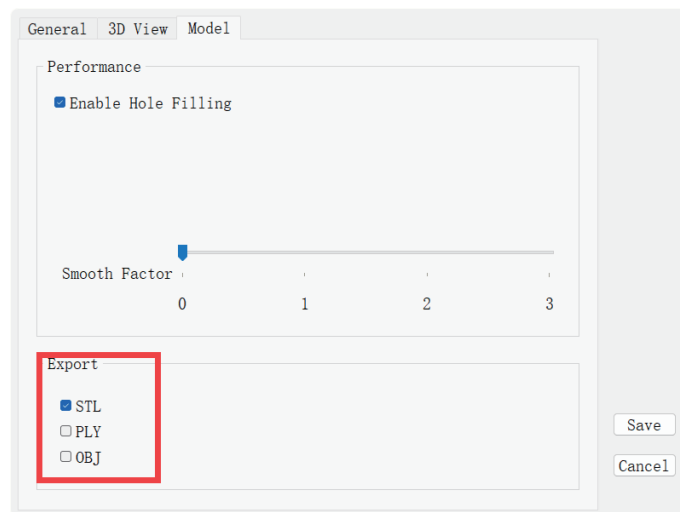

Figure 5-4
(4) In Model--Export, STL is checked by default. If you need to generate files in other formats, you can change it here. See Figure 5-4.